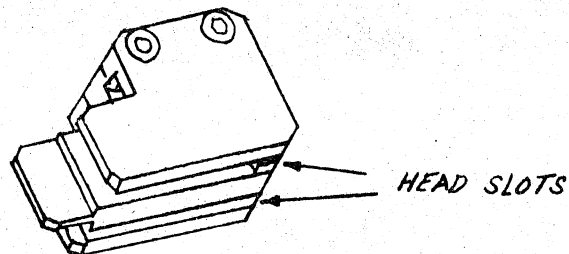

Figure 9 RK05 Head Holder
The head holder, illustrated in Figure 9, holds a pair of heads with the pads separated and the tailpieces oriented so that both heads may be simultaneously inserted in the head carriage. Proceed as follows:
- a) With the head holder arranged as in Figure 9, place the center section of the lower head suspension arm (pad facing up and to the right) in the lower slot of the holder.